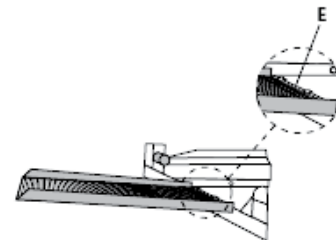

Figure 8
2. To load/unload the rear U-Box, pull the ramp out of the storage compartment until the ramp hooks catch the retaining bar (E) (Figure 8).